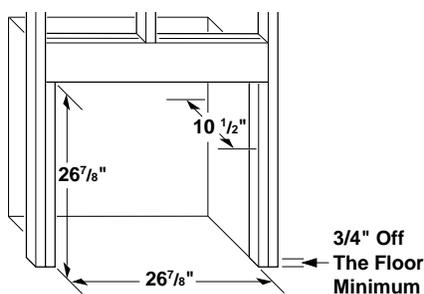
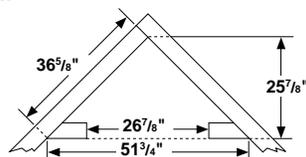

Figure 9 - Rough Opening for Installing in Wall
Figure 10 - Rough Opening for Installing in Corner
1. Frame in rough opening. Use dimensions shown in Figure 9 for the rough opening. If installing in a corner, use dimensions shown in Figure 10 for the rough opening. The height is 26 7/8" which is the same as the wall opening above.